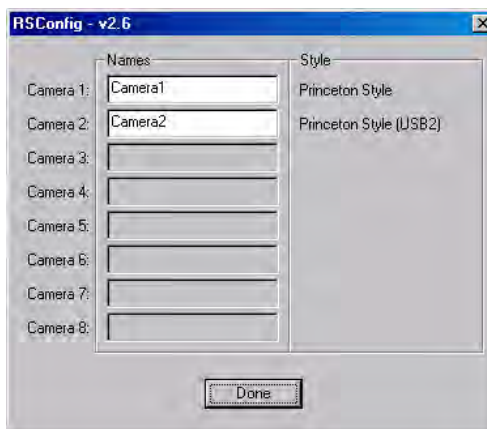

Figure 40. RSConfig dialog box: Two Camera Styles
4. Run RSConfig.exe (accessible from the **Windows|Start|Programs|Roper Scientific** menu). If the USB 2.0 camera is listed as Camera 2 (Princeton Style (USB2) in Figure 40), you will have to edit the PVCAM.INI file.